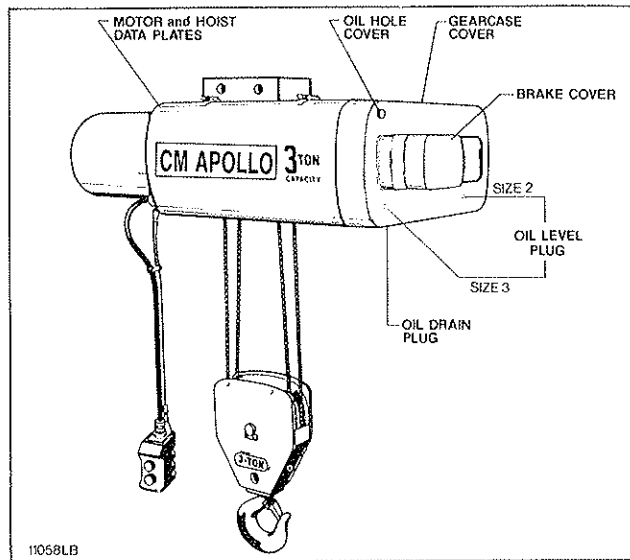

Figure 4-1. View of Hoist Showing Location of Name Plates and Oil Plugs.
- a. Check Oil Level. (Figure 4-1) The gearcase has been filled with oil to proper level and grease points
4-2. CHANGE GEARCASE OIL. (Figure 4-1)